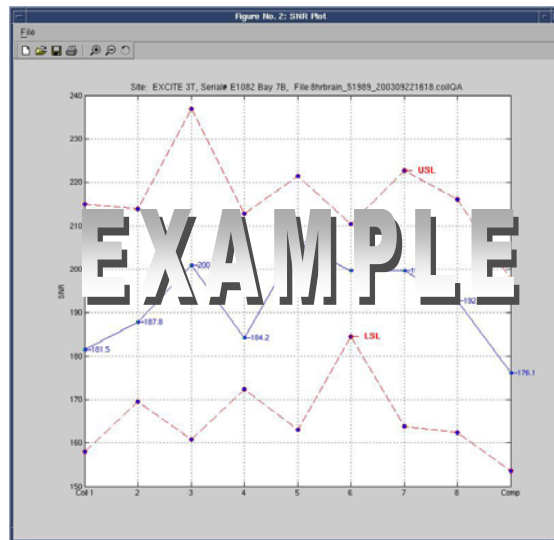

Figure 14: Nominal Individual Element results.
Step 8 – A plot window with SNR, Signal and Noise plots will open (see *Figure 14*).